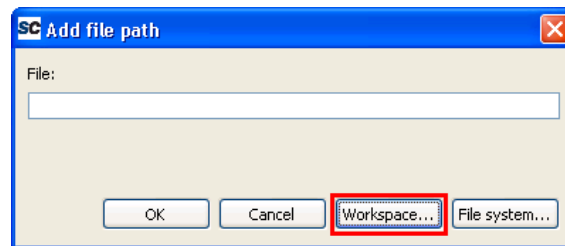

Figure 31 · Add File Path Window
8. Click **Add** in the **Other objects** section. The **Add file path** dialog window appears as shown in Figure 31 . .